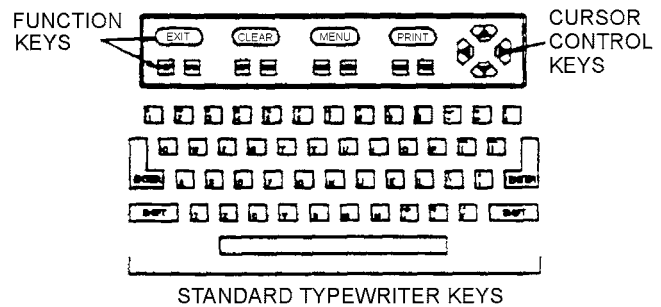

Figure 10. LS2000 Keyboard
- b. An RS232 serial port for down loading from a personal computer (PC).
44. **KEYBOARD.** The keyboard of the LS2000 is divided into three groups and categorized by key functionality (Figure 10).
(1) Press the first letter of the selection. Pressing first letter of the selection will automatically activate the choice.
(2) Move the cursor by pressing control keys. The cursor will move in same direction as designated by cursor arrows (Figure 10).